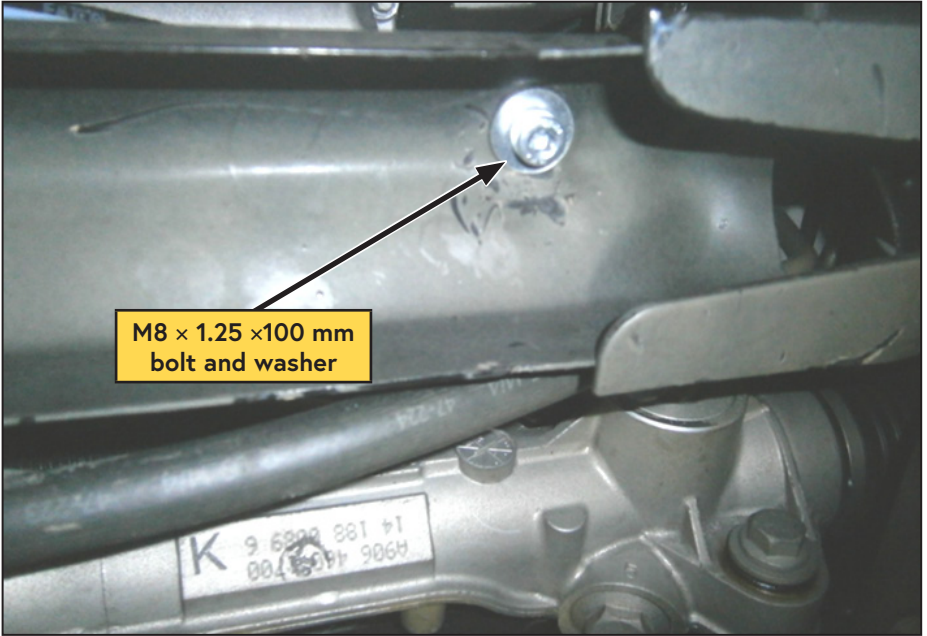

Figure 37 — Install P-clip mount
- Insert the supplied M8 × 1.25 × 100 mm bolt and washer through the hole in the vehicle sub frame (Figure 37).